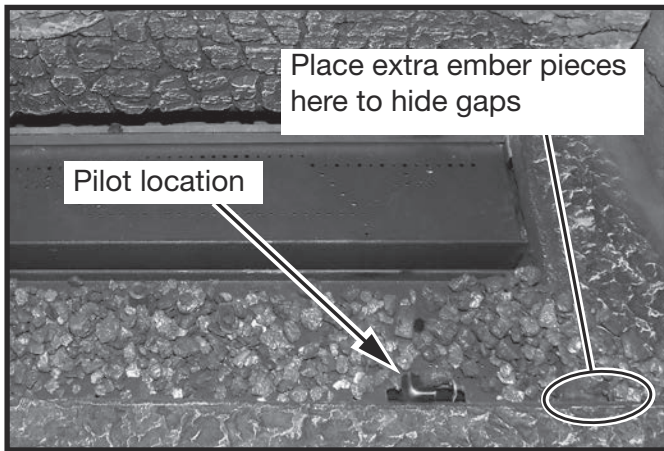
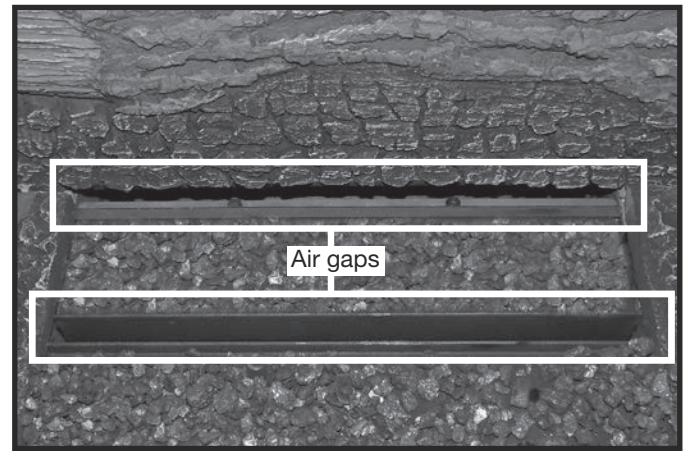

Figure 76: Front tray filled lightly with ember pieces and pilot location.
Figure 77: Air gaps.
9. Distribute a thin layer of ember pieces (Figure 62) (1/4" to 1/2") onto the front burner tray (Figure 76). Place extra ember pieces on the thin, but noticeable gaps between the front base piece and the two side base pieces. Keep the ember pieces from interfering with the pilot assembly. Place a layer of ember pieces (1/4" to 1/2") onto the rear burner tray to fill it up until it is level with the side and end walls. Keep the ember pieces from falling into the air gaps between the front and rear burners and the gap between the rear burner and the air deflector which supports the first log (Figure 77).